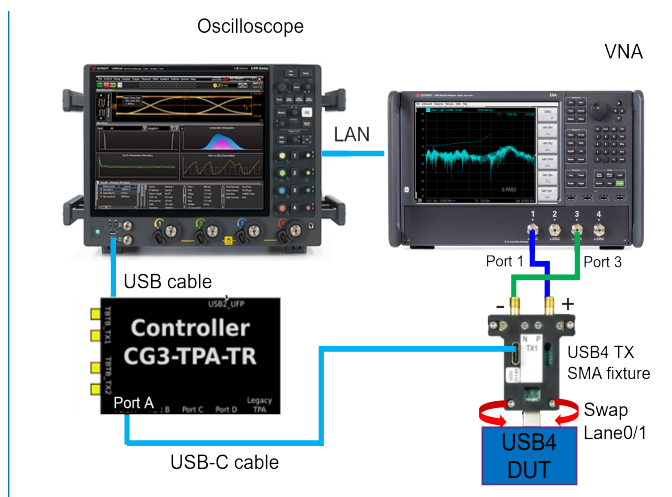

Figure 159 Tx Return loss test setup with Tx SMA test fixture
- 1 For the physical connections between the DUT & the Oscilloscope, see the connection diagrams in Figure 159 and Figure 160.